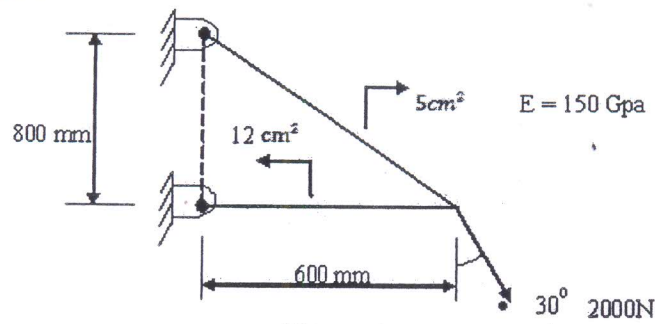

Figure.4
4. Calculate the nodal displacement, stresses and support reactions for the truss shown in Figure.4. [15]